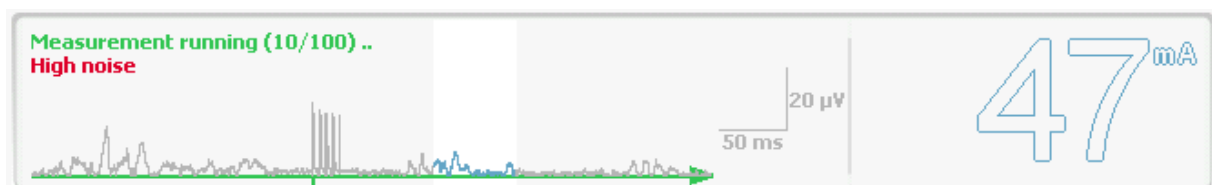

Figure 13 EMG display with high noise and unreliable reflex threshold
**High noise level** If the maximum amplitude in the area before the stimulation ('noise area') exceeds an adjustable threshold ('maximum acceptable noise level'), the message 'High noise' appears in the display of the EMG trace (Figure 13). Noise values are not used to calculate the threshold and the stimulation is repeated with the current intensity until an EMG signal with no noise is determined.
**Unreliable threshold value** If more than four EMG conduction values are obtained with noise levels that are too high (see above), during the stimulations used to determine the threshold (defined by the parameter 'Number of values for threshold determination') the threshold calculated is evaluated as not reliable and shown as an outlined number only (Figure 13). In this case, try to reduce the noise level, for example, by having the patient relax the limb or by using new electrodes and, if necessary, abrading the skin of the patient again (see section 8.1 Preparing the skin)